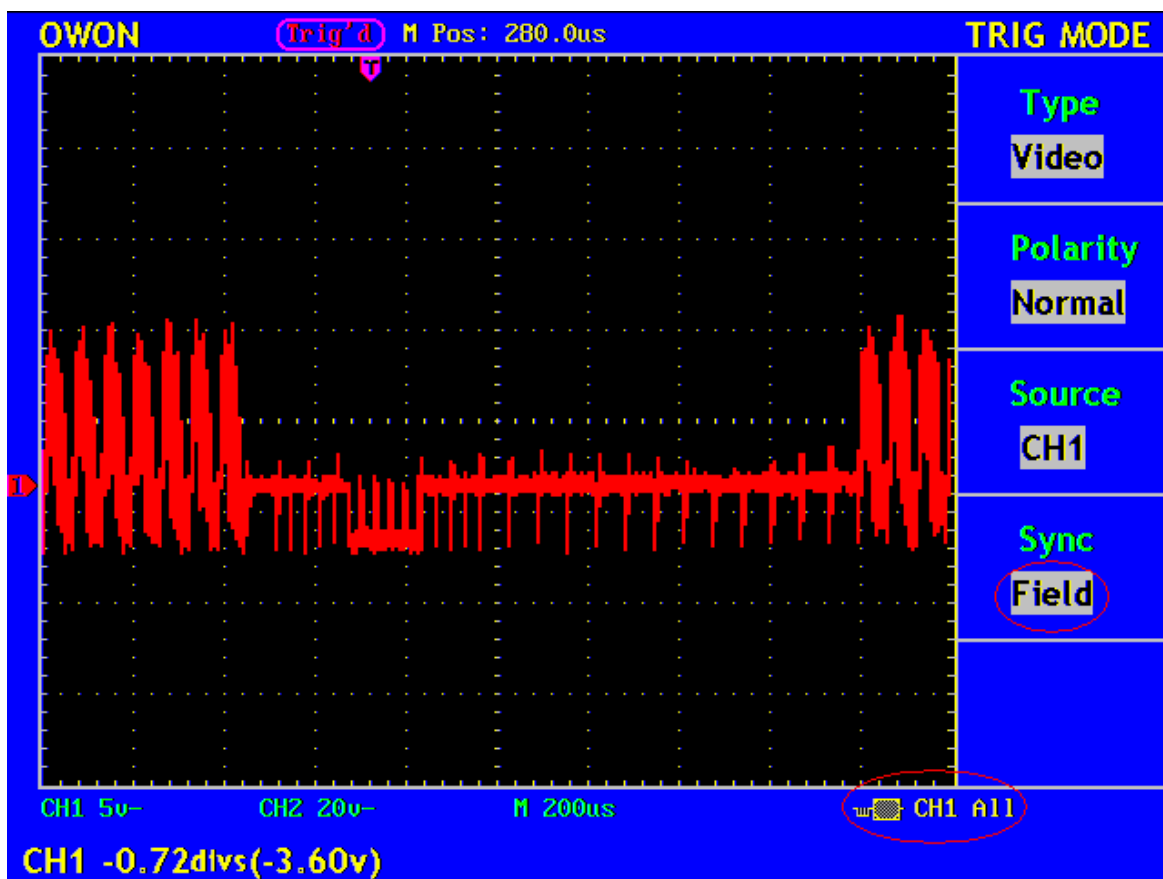

Fig. 96 Wave Form Obtained from Video Field Trigger
6. Adjust the **VOLTS/DIV**, **VERTICAL POSITION** and **SEC/DIV** knobs to obtain a proper wave form display (see Fig. 96).